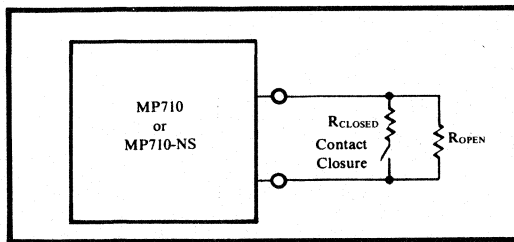

FIGURE 1. Typical Input Circuit
**RCLOSED** - The impedance of an input contact closure when closed. RCLOSED specifications are the maximum impedance allowed to reliably detect a closure. See Figure 1.
**ROPEN** - The impedance of an input contact closure when open. ROPEN specification is the lowest impedance allowed to reliably detect an open contact. See Figure 1.